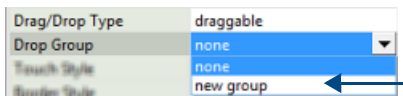

FIG. 219 Drop-Target Groups dialog - Drop Target Groups window
- Once a Drop Group has been created, it is available for selection for Draggable buttons, via the Drop Group (General) property (FIG. 219):